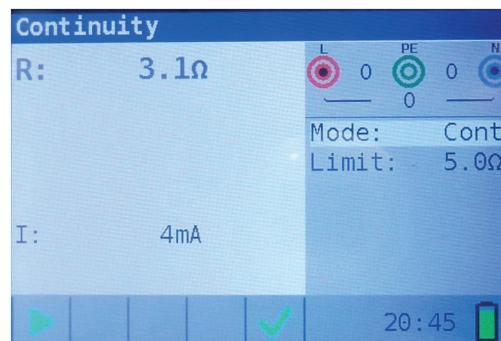

Figure 7.1: Last results
**Step 1** When the measurement is finished (Figure 7.1) results are displayed on the screen.